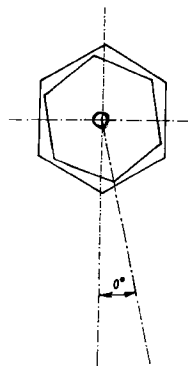

Fig. 6
Check the correct setting by alternate "up" and "down" commands. The holder should be stationary as the hexagonal key rises to the working position. Another effect can occur, namely that the walls of the hexagonal key do not make with the hexagonal opening in the holder (see Fig. 6). This effect can be temporarily excluded by a very slight rotation of the spherical shell of the holder so that you will be able to successfully perform the correct adjustment of the height of the columns.
- 3. *The angular position of the hexagonal opening and the angular position of the hexagonal key do not mate: The walls of the hexagonal key are not parallel to the hexagonal socket (see Fig. 6).***
If cleaning the hexagonal opening and hexagonal key is ineffective, it is necessary to check the coaxiality the hexagonal opening and hexagonal key (see Point 2), or the mating of hexagonal key and socket (see Point 3 and Fig. 6).